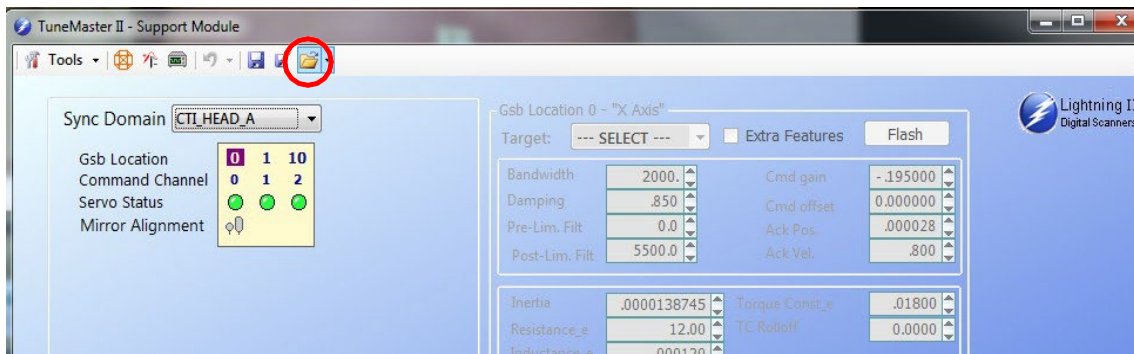
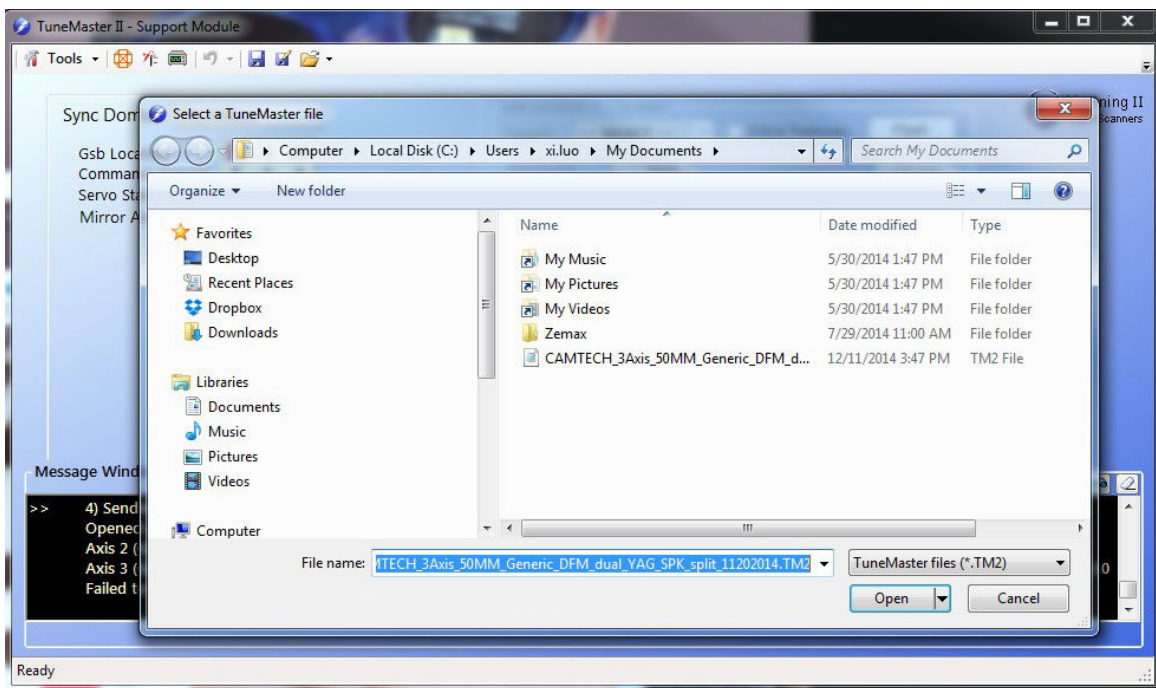

Figure 6 - Open Folder to Browse for the Tune File to Load
Figure 7 - Choose and Load the Tune File
2. Click the 'open folder' icon (Figure 6), then choose and load the tune file (Figure 7).